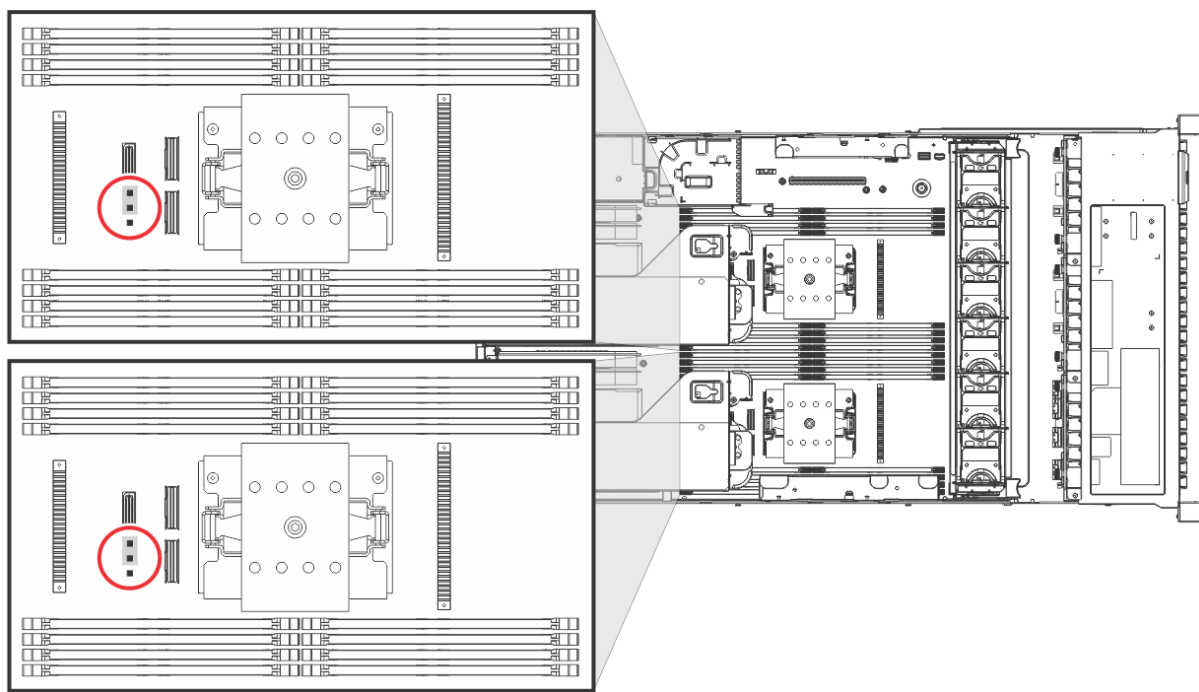
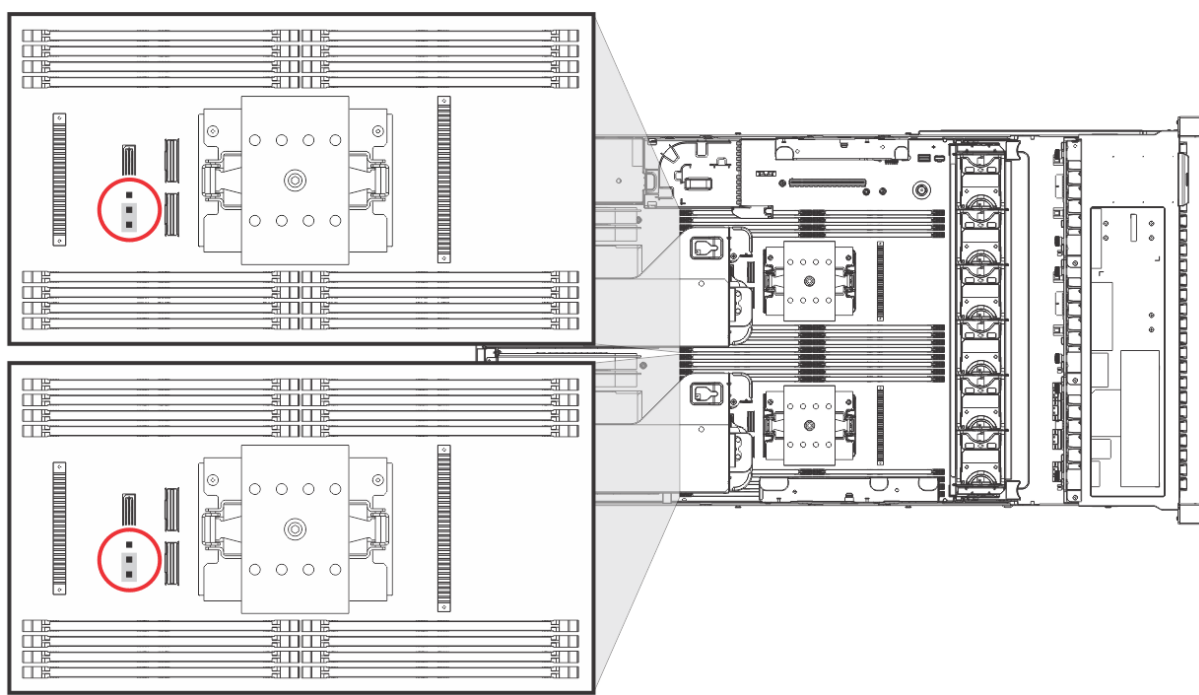

Figure 80. Original system processor jumper positions
Figure 81. New system processor jumper positions
5. Move the system processor jumpers on the system backplane from the original system processor jumper positions that are shown in Figure 80 on page 118 to the new system processor jumper positions that are shown in Figure 81 on page 118.